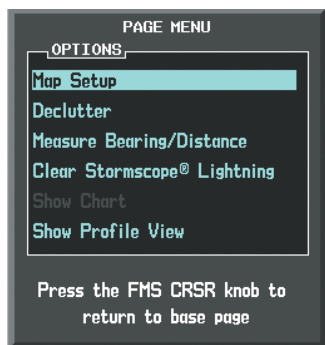

Figure 6-61 Navigation Map Page Menu
- 3) With 'Map Setup' highlighted, press the **ENT** Key (Figure 6-61).